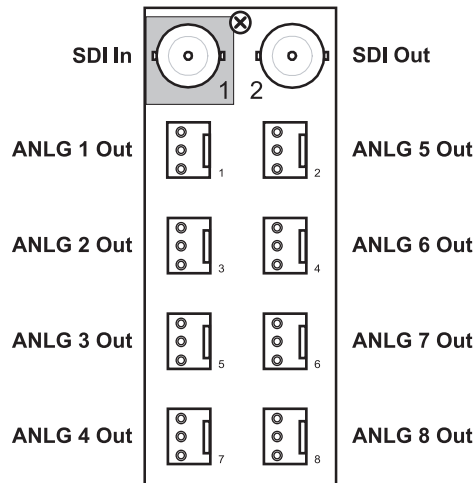

Figure 2.4 Cable Connections for the DMX-8259-8C
- **8310AR-034** Rear Module (R1C-8259) — Each card occupies one slot and provides one SDI Input, one SDI output, and eight analog outputs. (**Figure 2.4**).
- **8320AR-034** Rear Module (R2C-8259) — Each card occupies one slot and provides one SDI Input, one SDI output, and eight analog outputs. (**Figure 2.4**)